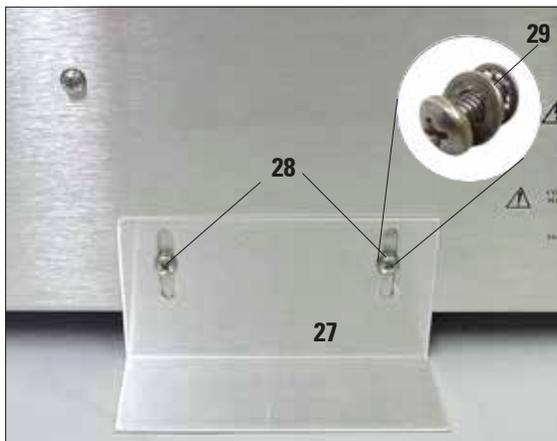

Fig. 20
- To do this, first unscrew the two Phillips head screws (28) with a screwdriver. Place them together with the two associated washers (29)
- Place the support bracket against the rear of the instrument (Fig. 20), reinsert but do not fully tighten the two screws.